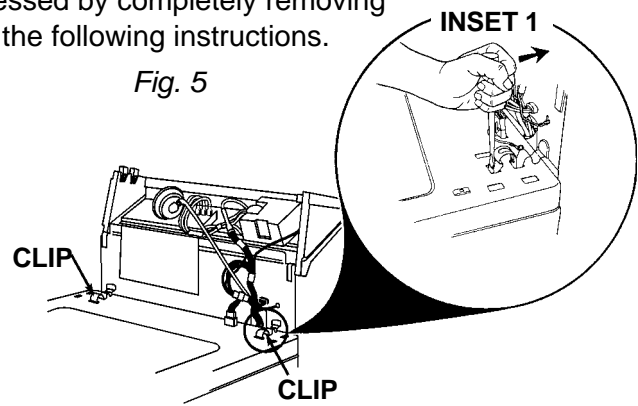

Fig. 6
4. Rotate the access cover on the washer top clockwise to expose the hose assemblies underneath. (*Fig. 6*)
5. Disconnect the bleach dispenser venturi hoses and the detergent and fabric softener inlet hoses as indicated in *Figure 6*.